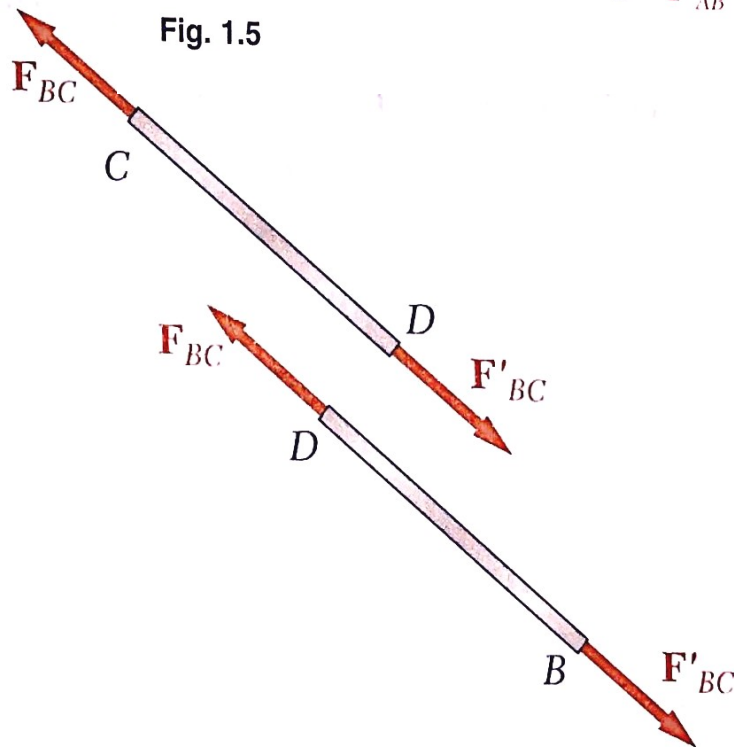

Fig. 1.6
- Passing a section at some arbitrary point **D** of rod **BC**, it is obtained two portions **BD** and **CD** (*Fig.1.6*).
- It would be further checked from the directions of the forces F_{BC} and F'_{BC} in *Fig. 1.6* that the rod is in tension.